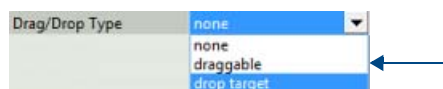

FIG. 11 TPDesign5 General Properties - Drag/Drop Type set to "drop target"
3. Set the button's *Drag/Drop Type* (General) property to **drop target** (FIG. 11):